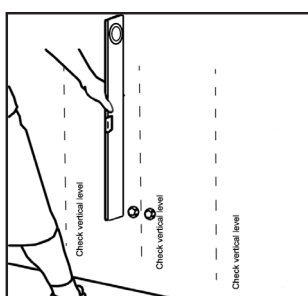

Fig.1
1. Check that wall is level (fig 1 and 2) and plumb both vertically and horizontally. If your wall is out of plumb, or is not flat, you will need to pack your vanity so as not to follow the wall. Your vanity must be level, otherwise it will twist and your doors will be out of alignment.